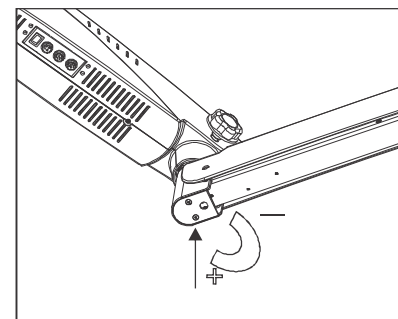

Fig. 19
2. Loosen two allen bolts by using allen wrench of 4 mm as shown in fig 19